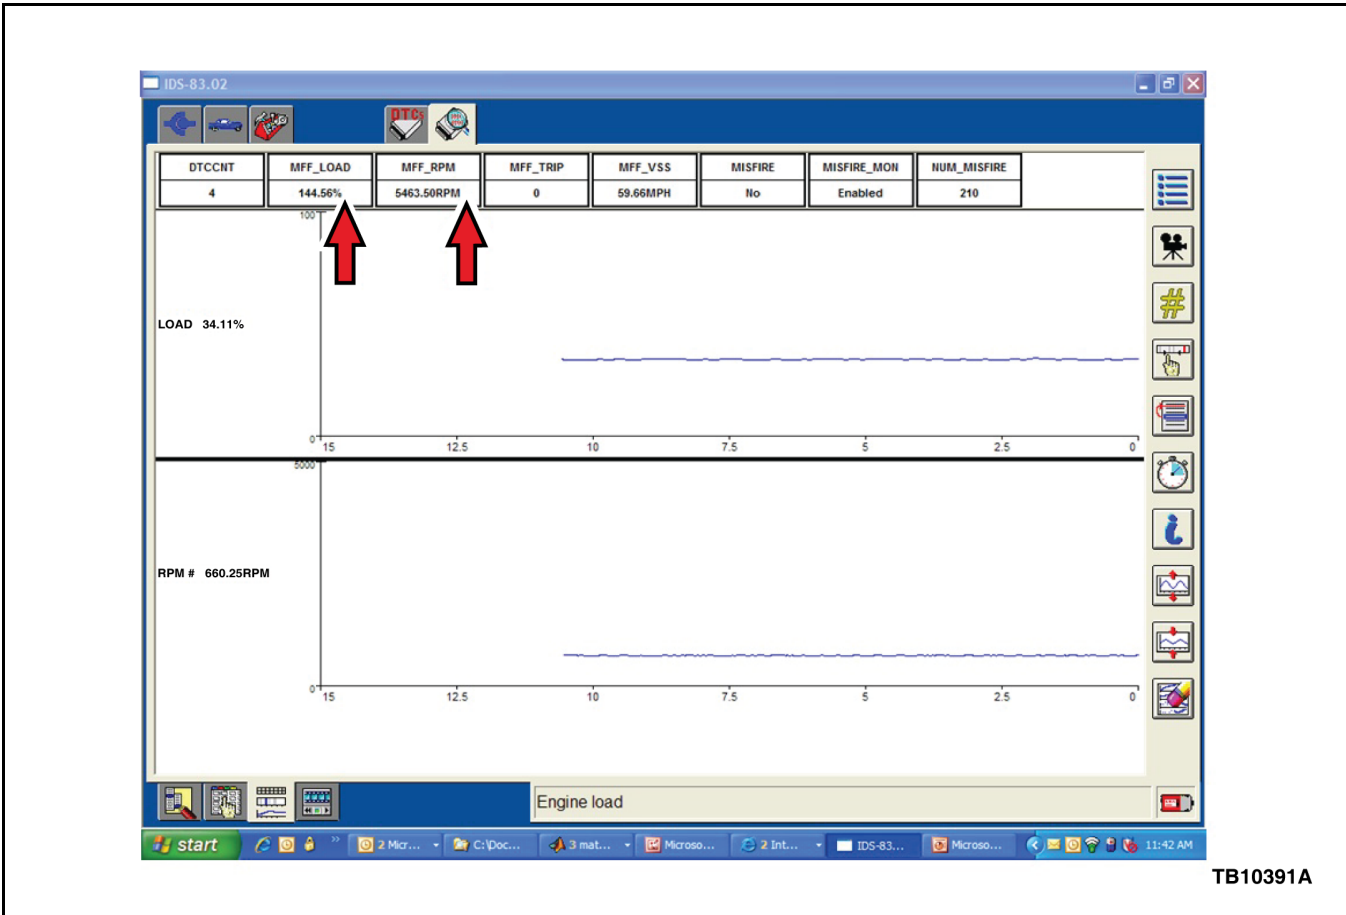

Figure 1 - Article 13-8-1
3. Does the Misfire Freeze Frame Data indicate engine speed above 2500 rpm and load 100% or above? (Figure 1)